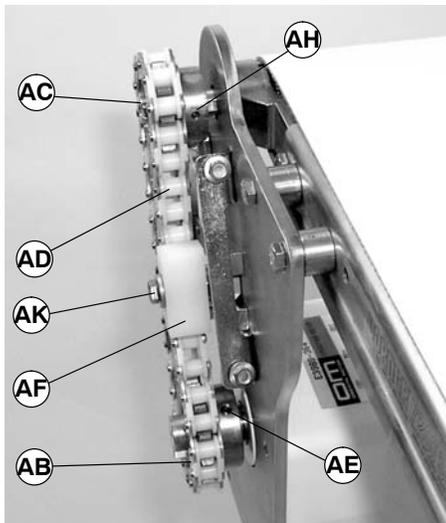

Figure 24
2. Loosen timing chain tensioner screw (AK of Figure 24).
IMPORTANT: Make sure center of timing chain (AD of Figure 24) aligns with center of chain tensioner (AF). If necessary, loosen two set screws (AE) to move drive sprocket (AB) in or out. Tighten set screws. Also, if necessary, loosen two set screws (AH) to move driven sprocket (AC) in or out. Tighten set screws.
7. Slide chain tensioner (AF) to take up chain slack. Tighten chain tensioner screw (AK of Figure 24) to 92 in-lb (10.4 Nm).